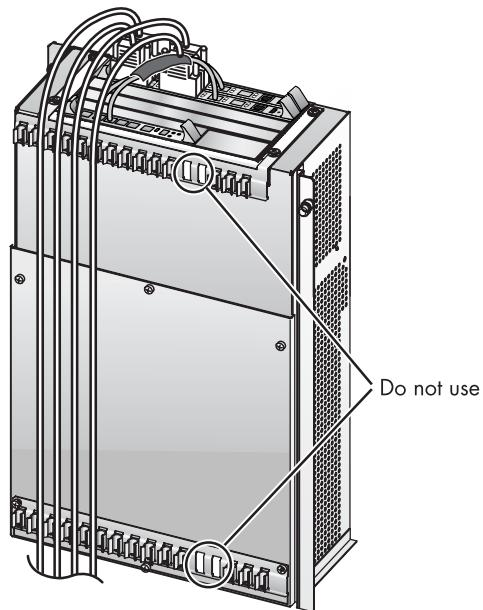

Figure 29: Securing the SCSI cables
2. Secure the SCSI cables going from the controller to the library bulkhead by snapping them into the clips in the upper and lower cable clamps located on the electronics enclosure, as shown in Figure 29. To prevent interference with the door, do not use the fourth and fifth clips from the right edge of the cable clamp.